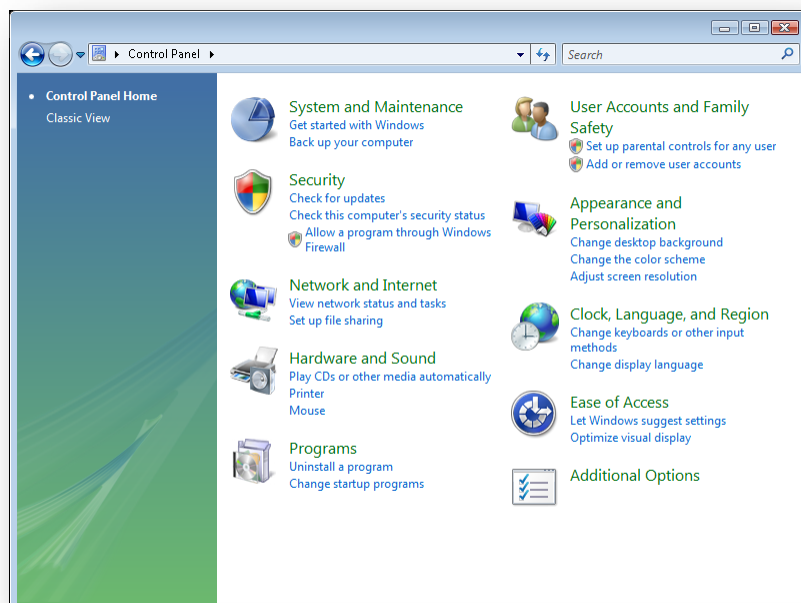

Figure 3 - Control Panel
2. If the Control Panel resembles Figure 3, the Control Panel is set to Category view. If the Control Panel is set to Category view, click on “Programs”, then click on “Programs and Features”. If the Control Panel is not set to Category view, click on “Programs and Features”